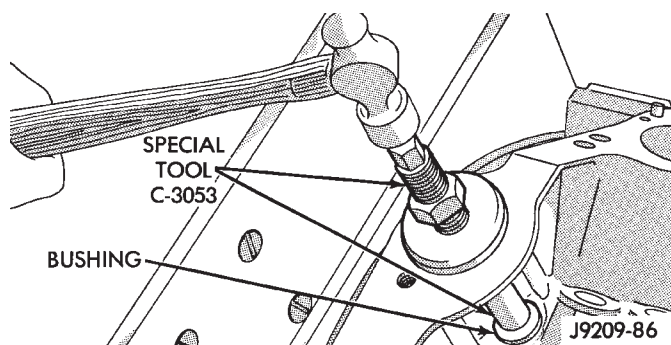

Fig. 34 Distributor Driveshaft Bushing Installation
(1) Slide new bushing over burnishing end of Distributor Drive Shaft Bushing Driver/Burnisher Tool C-3053. Insert the tool and bushing into the bore.
(2) Drive bushing and tool into position, using a hammer (Fig. 34).